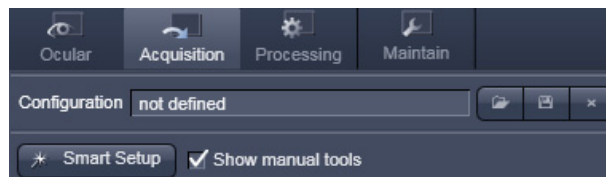

Fig. 9-120 Left toolbar area - Acquisition
- In the major toolbar of the left toolbar area activate the **Acquisition** button (Fig. 9-120).